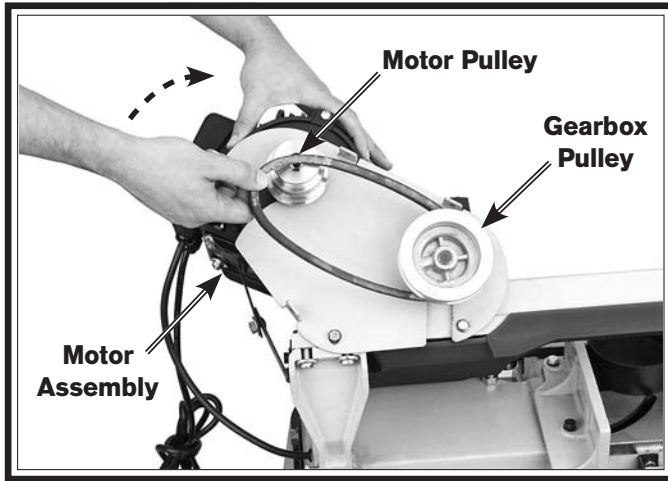

Figure 15. Installing belt.
11. Pivot the motor assembly upward, then place the belt over the gearbox and motor pulleys, as shown in **Figure 15**.